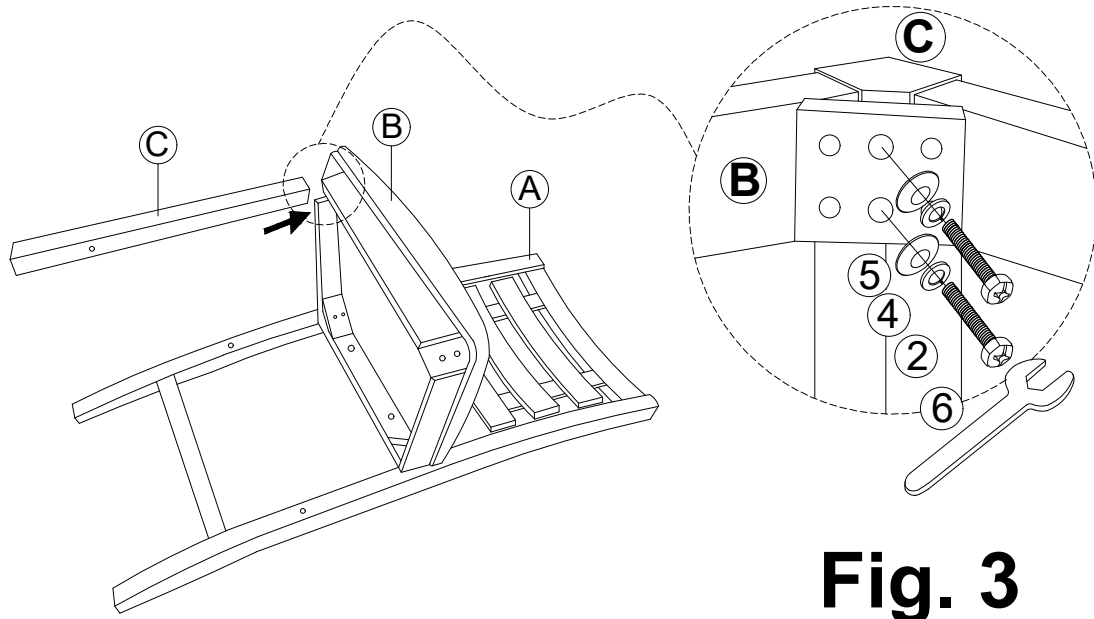

Fig. 3
Step 2: Attach Front legs (C) to Cushion Seat(B) using the provided hardware as shown Fig.3.